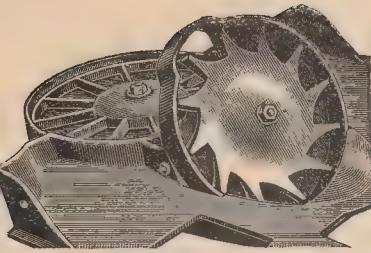

Fig. 115
**Dropping of the Seed.**—After placing the seed in the hopper it is then carried by means of an elevator wheel and deposited in the corresponding pocket of the revolving feed wheel. For illustration of the elevator wheel and the feed wheel see Figs. 115 and 186. In order to suit the different size cuttings of the seed, we furnish three sizes of elevator wheels, each having different sized pockets; one for small cut seed, numbered Y—129; one for medium, numbered P—107; one for large, numbered P—126. The knowing of which wheel to use for the elevation of the different sized cuttings must be left to the judgment of the operator—actual trial soon shows which